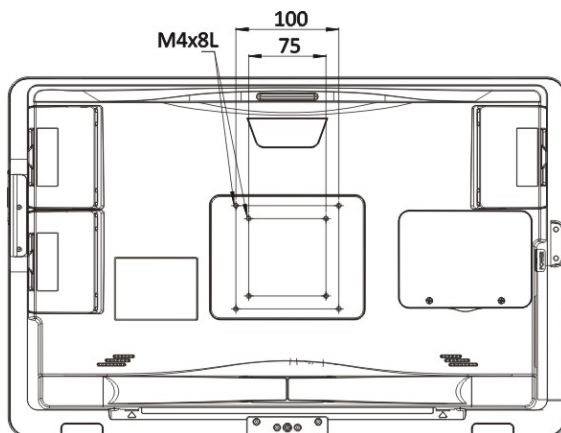

Figure 3-22: Arm Mounting Retention Screw Holes
Step 3: Align the retention screw holes on the mounting arm interface with those in the panel PC (**Figure 3-22**).